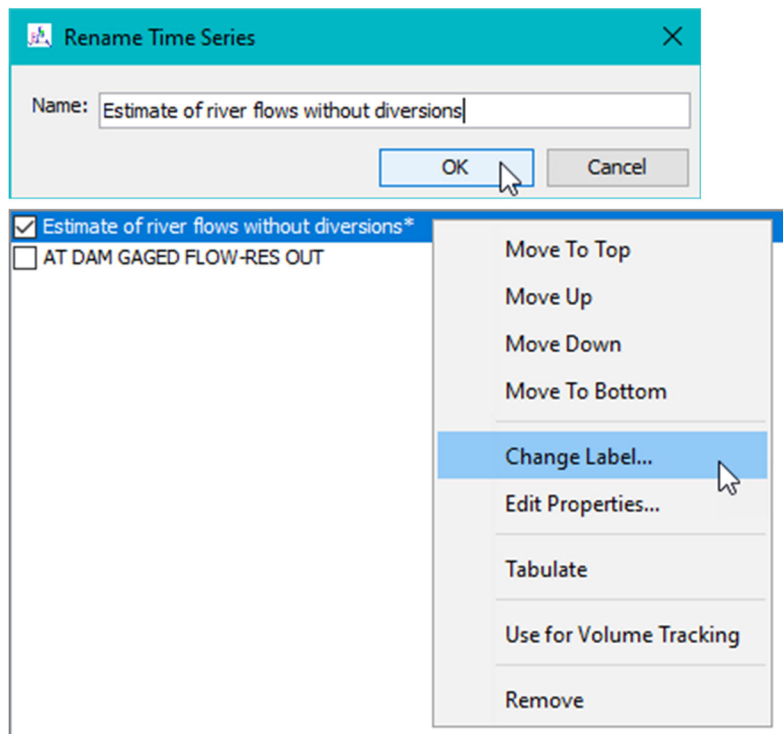

Figure 7. Relabeling time series.
- Data List - Change Label. The default naming convention for the data list is based on the b-, f-, and c-parts of the imported time series. RPT 3.0 allows users to relabel those time series (Figure 7).